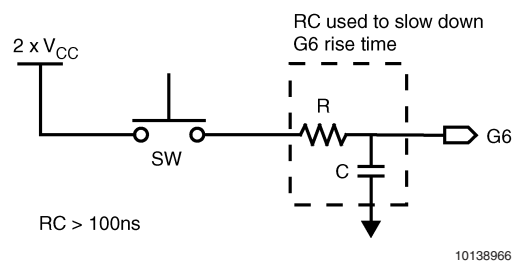

FIGURE 14. Circuit Diagram for Implementing the  $2 \times V_{CC}$
4. After  $V_{CC}$  is valid and stable, connect a voltage between  $2 \times V_{CC}$  and  $V_{CC}+7V$  to the G6 pin. Ensure that the rise time of the high voltage on G6 is slower than the minimum in the Electrical Specifications. *Figure 14* shows a possible circuit diagram for implementing the  $2 \times V_{CC}$ . Be aware of the typical input current on the G6 pin when the high voltage is applied. The resistor used in the RC network, and the high voltage used, should be chosen to keep the high voltage at the G6 pin between  $2 \times V_{CC}$  and  $V_{CC}+7V$ .